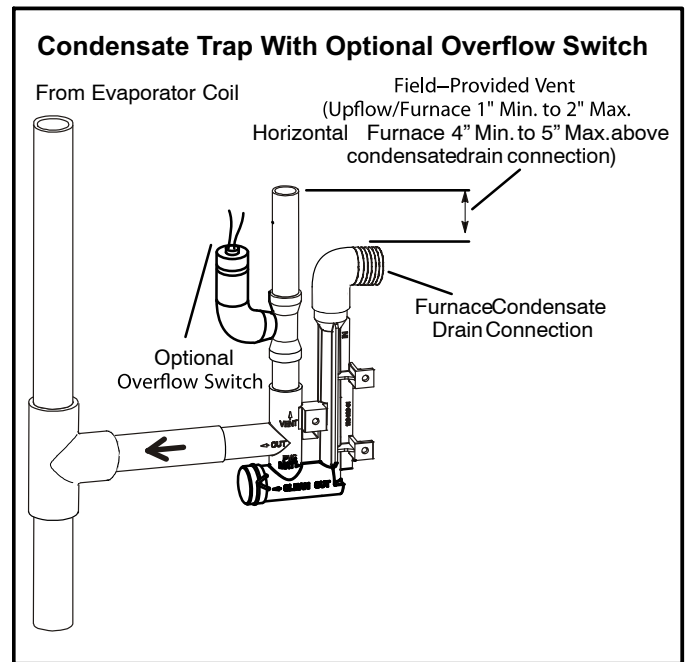
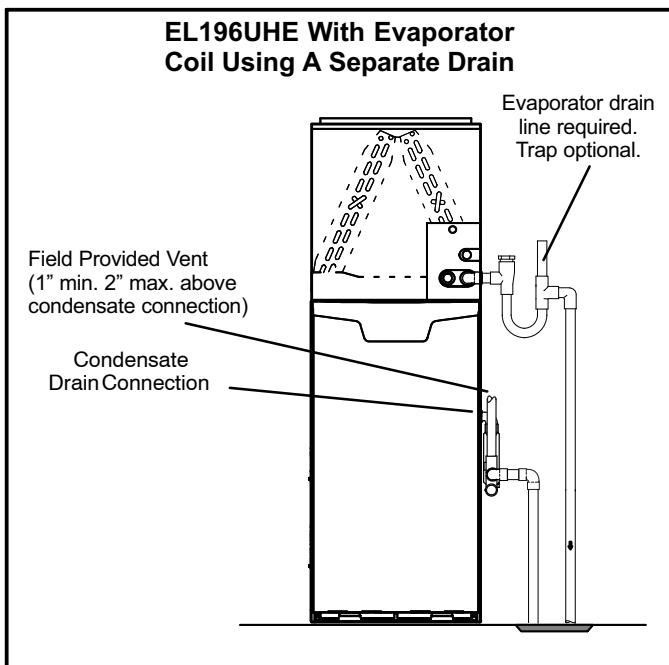

FIGURE 50
FIGURE 49
- 5 - Figures 49 and 51 show the furnace and evaporator coil using a separate drain. If necessary the condensate line from the furnace and evaporator coil can drain together. See figures 50, 52 and 53.